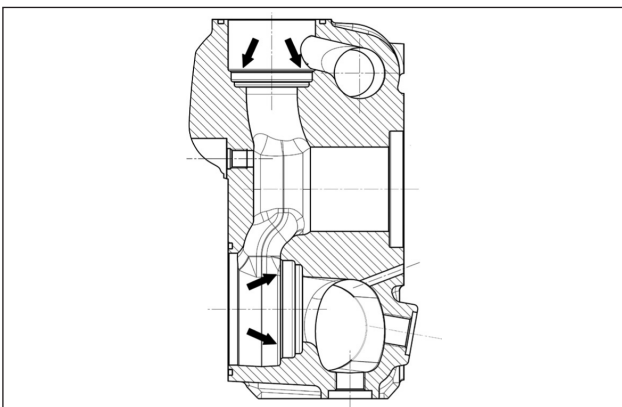

Fig. 143
**Before repositioning the valve units, thoroughly clean and dry the relative housings on the head indicated by the arrows (pos. ①, Fig. 143).**